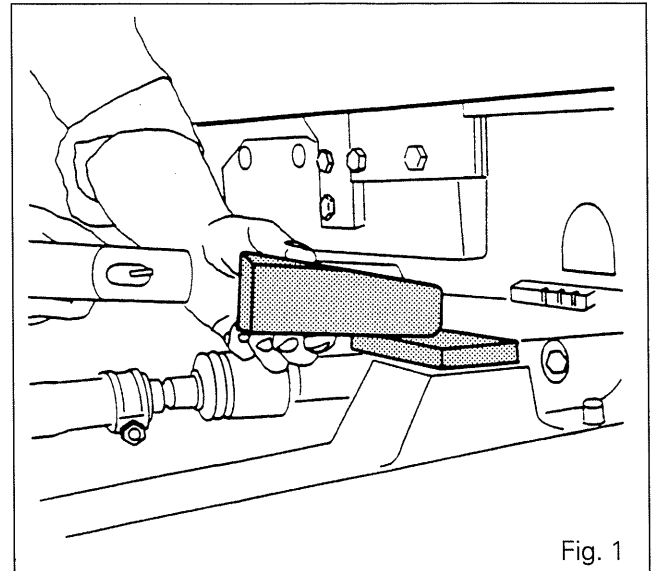

Fig. 1
1. Stop the tractor. Apply the handbrake. Fit chocks between the frame and the front axle (Fig. 1).